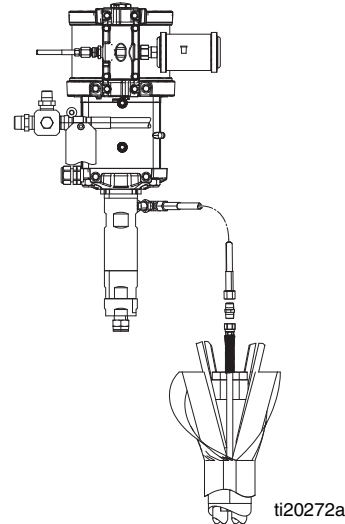

FIG. 20: Flush Pump Connection
2. Connect the short purple flush hose from the flush pump to the 1/4 npsm hose in the bundle. Use the 1/4 in. nipple included with the hose bundle to connect the hoses. See FIG. 20.